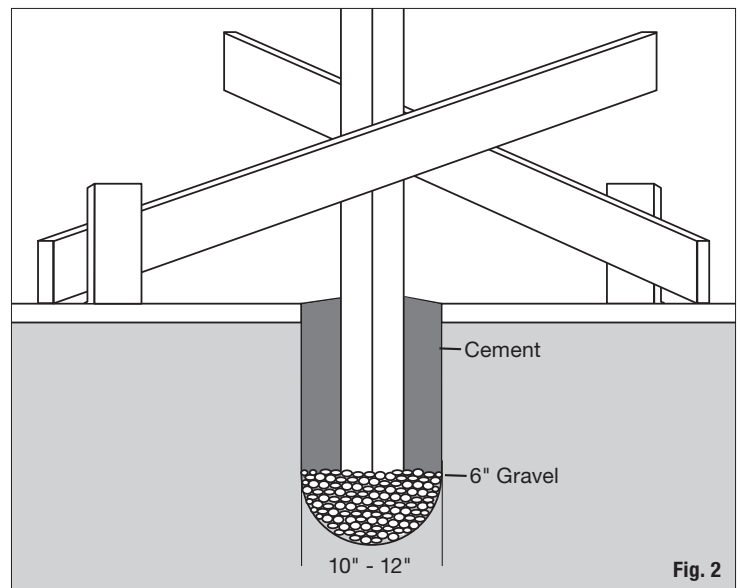

Fig. 2
- A general rule of thumb is to place 1/3 of the post into the ground. Check local regulations for any special requirements or frost laws. The fence will be stronger if end, corner and gate posts are set at least 6" deeper than needed. Backfill the holes with 6" of gravel to drain water away from the bottom of the posts (fig. 2). Keep the height of your fence panels in mind when digging your postholes.